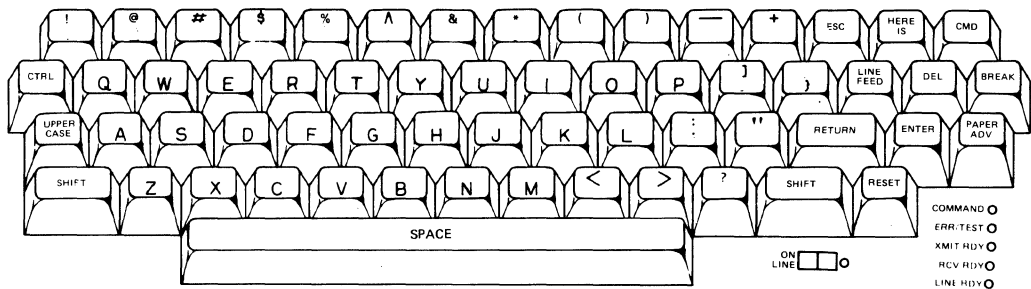

Figure 3-3. Keyboard (Shifted)
- Upper Case Only—UPPER CASE (alternate action) key depressed; all alphabetic characters a through z are encoded as ASCII upper case A through Z. The characters generated by each key when the UPPER CASE key is depressed are shown in Figure 3-3.